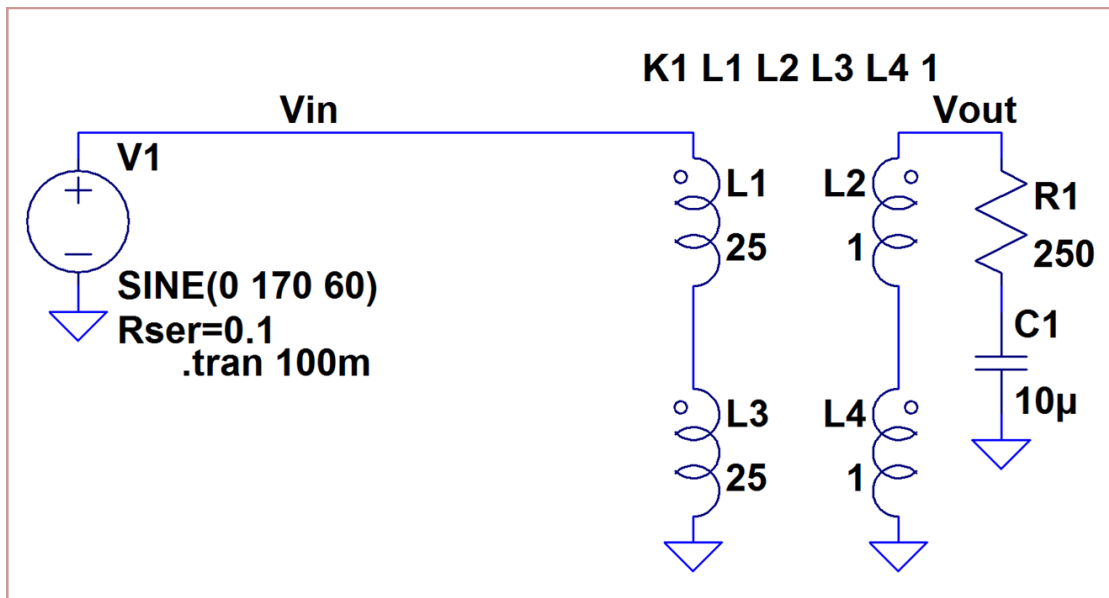

Figure 19. Adding a complex load to the transformer.
1. Simulate the schematic shown in Fig. 19. Plot the output voltage and the current flowing through R1. Estimate the phase angle between these two waveforms. Use the phase angle and the RMS values of the voltage and current to calculate the real power, reactive power and apparent power.